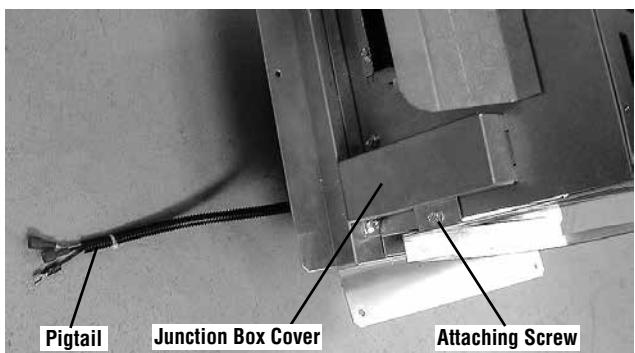

Figure 30 - Bottom of Termination
- Locate a locally procured electrical junction box within reach of the termination wiring pigtail (refer to Figure 30 on Page 24) and route the pigtail to the junction box as the termination is installed.
- Remove the junction box cover from the termination by removing the attaching screw (refer to **Figure 30**).
- Loosen the strain relief on the termination shown in **Figure 30**. Pull the pigtail in and shorten it to fit within the junction box cover.